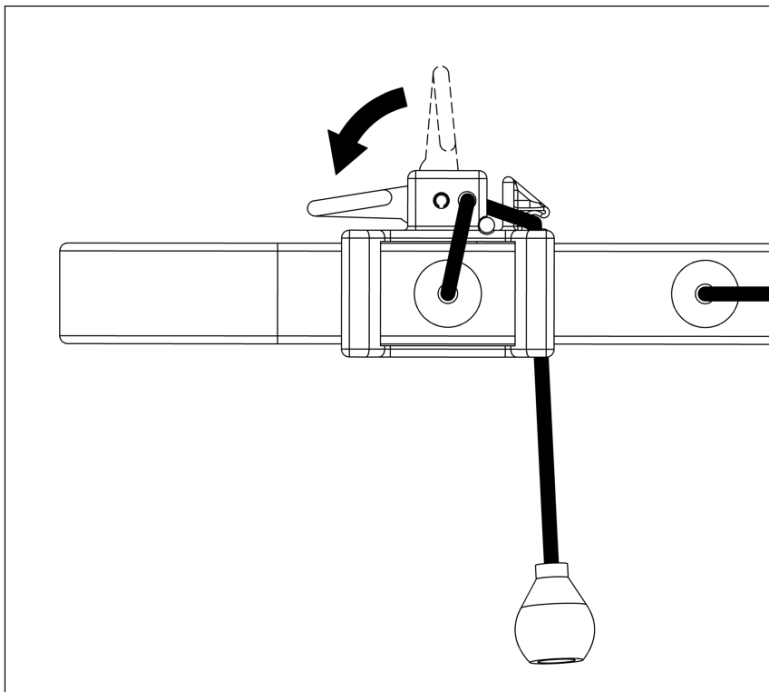

Fig 5. Feed through hole in L.T.L. and lock down lever.
11. Tie off the cord and lock the L.T.L. (Figs 5 and 6)